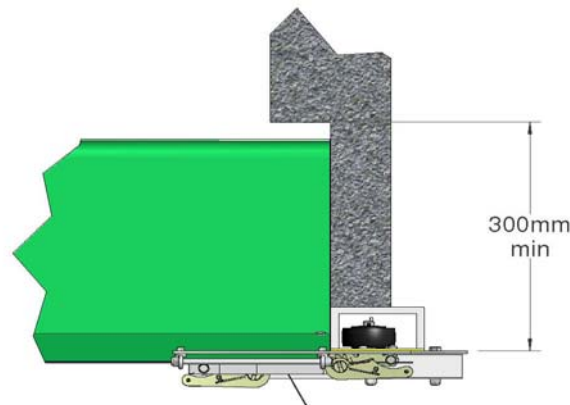

Figure 13a
13.2 Extensions above 400mm: In addition to panel protection as detailed above, ensure there is 300mm clearance either side of the tracking to allow the door panel to fold (Figure 13a).